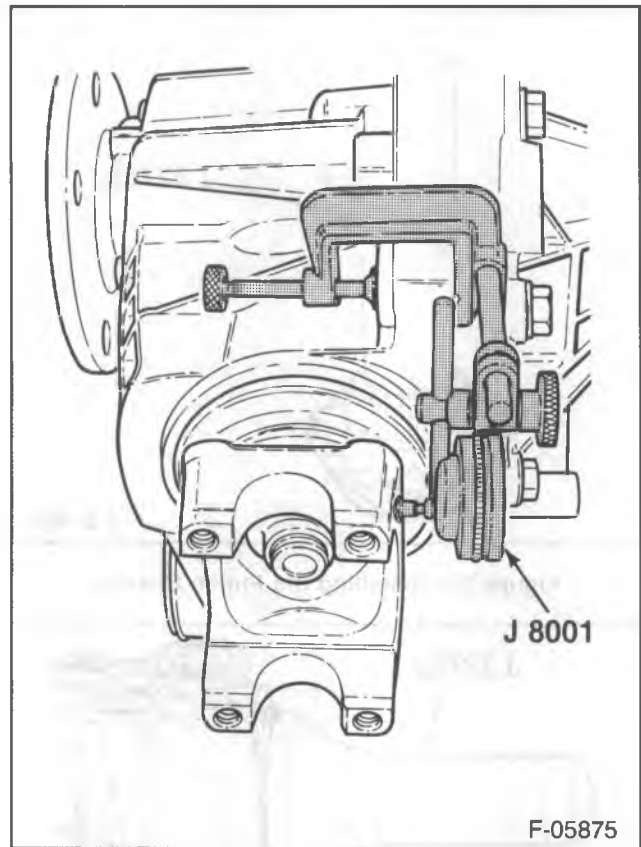

Figure 28—Measuring Backlash at the Pinion Flange
3. Install a dial indicator so the button contacts the outer edge of the pinion flange. The plunger must be at a right angle to the pinion flange (figure 28).